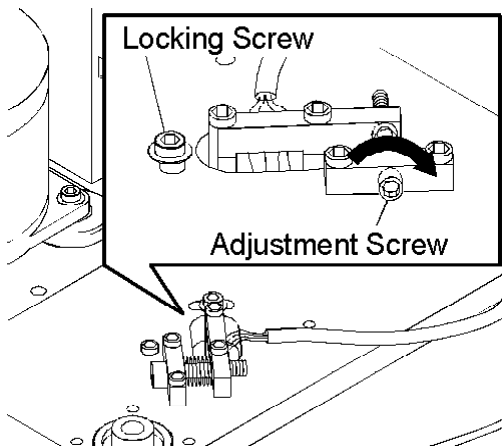
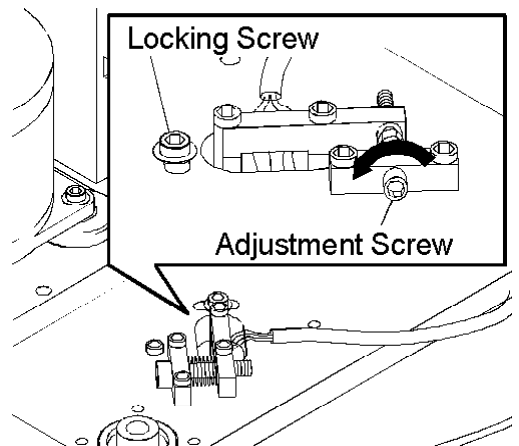

Figure 1
Figure 2
b) turn the Adjustment Screw clockwise (see Figure 1) to adjust the Carousel in a clockwise direction OR turn the Adjustment Screw counter-clockwise (see Figure 2) to adjust the Carousel in a counter-clockwise direction.